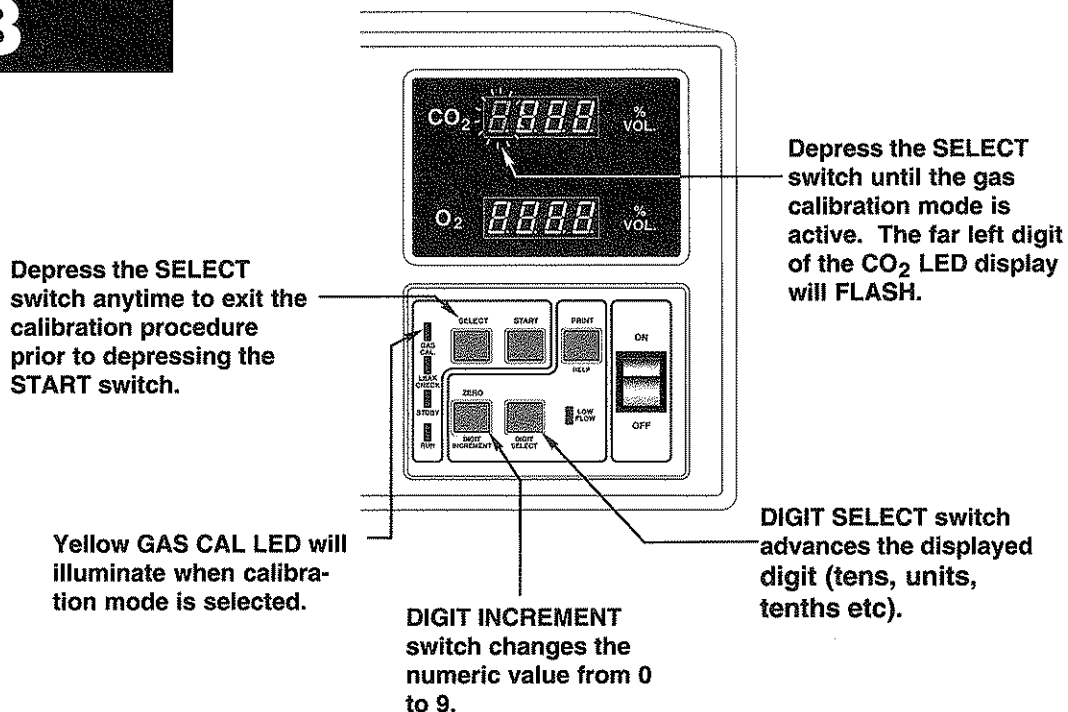

FIGURE 20:
Should it become necessary to exit the calibration procedure you may do so by depressing the **SELECT** switch any time **prior** to depressing the **START** switch. (See FIGURE 20.)
17. Depress the **START** switch (see FIGURE 20 ). The analyzer will store the gas values for the next time the unit is calibrated, perform gas and zero calibrations and return to the normal operating mode. During the automatic calibration cycle, the **GAS CAL** LED will flash. **The automatic calibration cycle will take approximately 75 seconds.** Turn off the valve on the gas container's regulator when instructed to do so by the analyzer printer's message. You may leave the calibration gas tank and hose connected to the analyzer if you desire. Calibration gas input to the analyzer is controlled by a solenoid activated valve inside the analyzer.